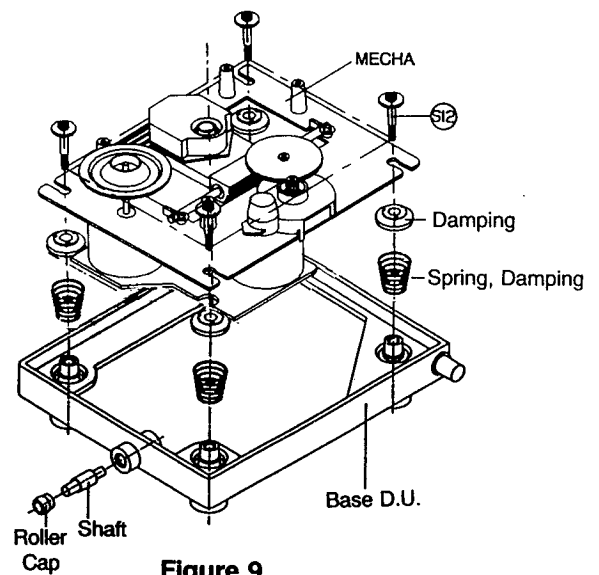

Figure 9
2. Remove four screws S12 (See Figure 9).